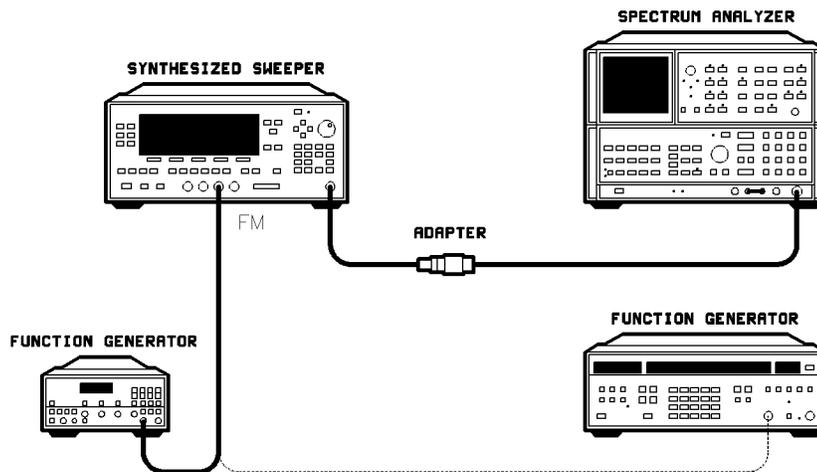

Figure 2-30. Maximum FM Deviation Test Setup
1. Connect the equipment as shown in Figure 2-30. Preset all the instruments and let them warm up for at least one hour.